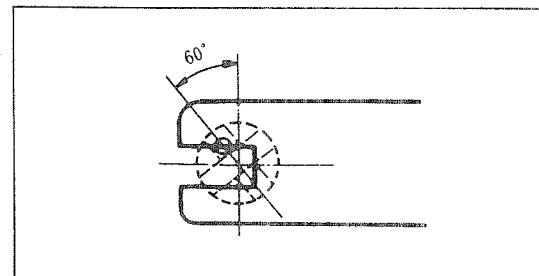

Fig. 12-2
- a) Standard position (Fig. 12-2)